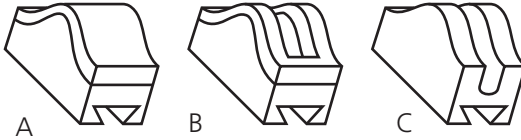

Figure 3-1. Adapter head options.
1. Choose an adapter head for the type of fiber to be tested. The FOLTI comes with three adapters (as shown in Figure 3-1):